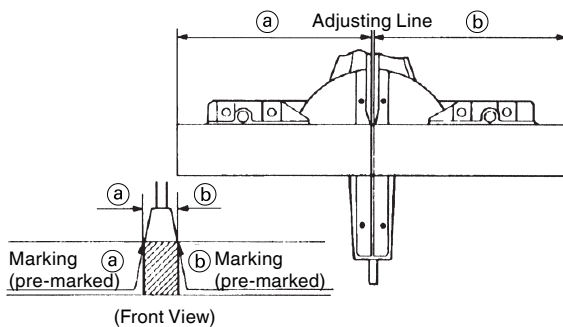

Fig. 25
- (1) As shown in Fig. 25 the width of the saw blade is the width of the cut. Therefore, slide the workpiece to the right (viewed from the operator's position) when length (b) is desired, or to the left when length (a) is desired.